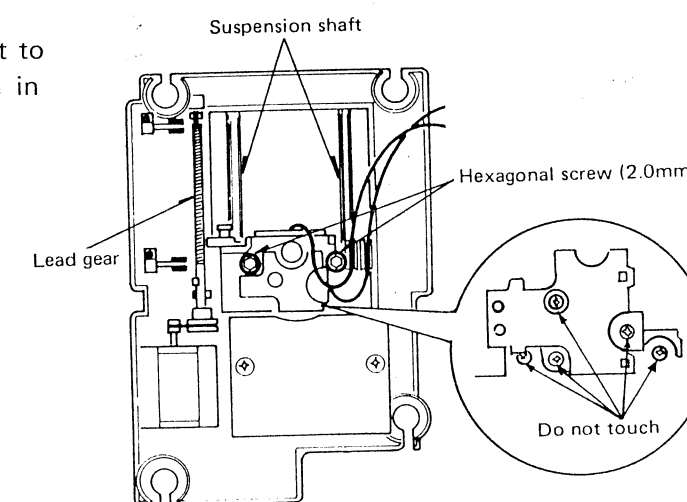

Fig 4-13. Bottom view of traverse unit
5. To adjust hex 2.0mm screw to the right or left to obtain the RF signal (Visual check) as shown in figure 4-13.